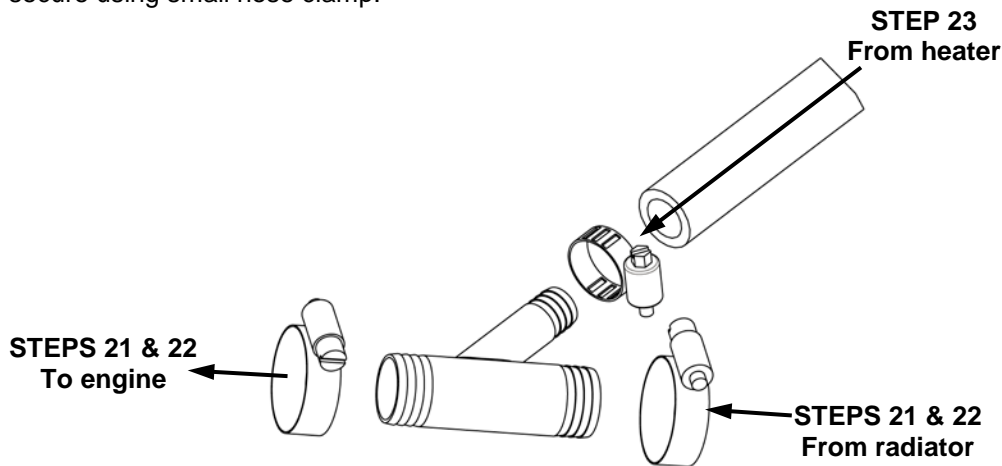

Figure 6
Return connection from heater unit to engine (Figure 6);
21. Locate lower radiator hose. Cut hose and install the Y-fitting as shown in **Figure 6**.
- (1) 5/16" hex flange nylock nut
36. Secure remaining locations of heater hoses together and to frame use existing holes already in the frame. Secure to frame using **(Figure 6)**;